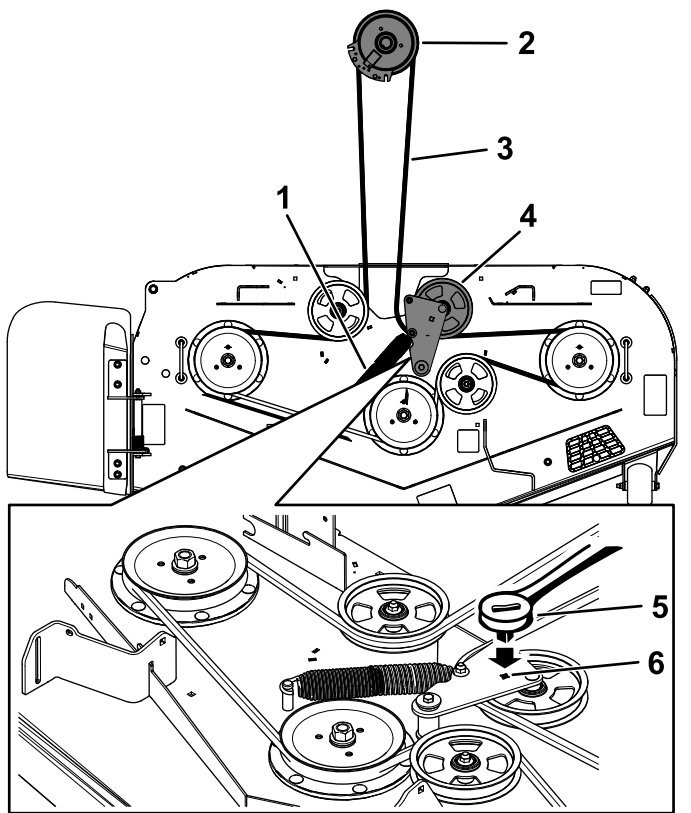

Figure 72
5. Use a 3/8-inch ratchet in the square hole in the idler arm to remove tension on the idler spring (Figure 72).
7. Remove the belt guide on the spring-loaded idler arm (Figure 72).
9. Install the new belt around the mower pulleys and the clutch pulley under the engine (Figure 72).
10. Install the belt guide on the idler arm (Figure 72).
11. Using the 3/8-inch ratchet in the square hole, install the idler spring (Figure 72).